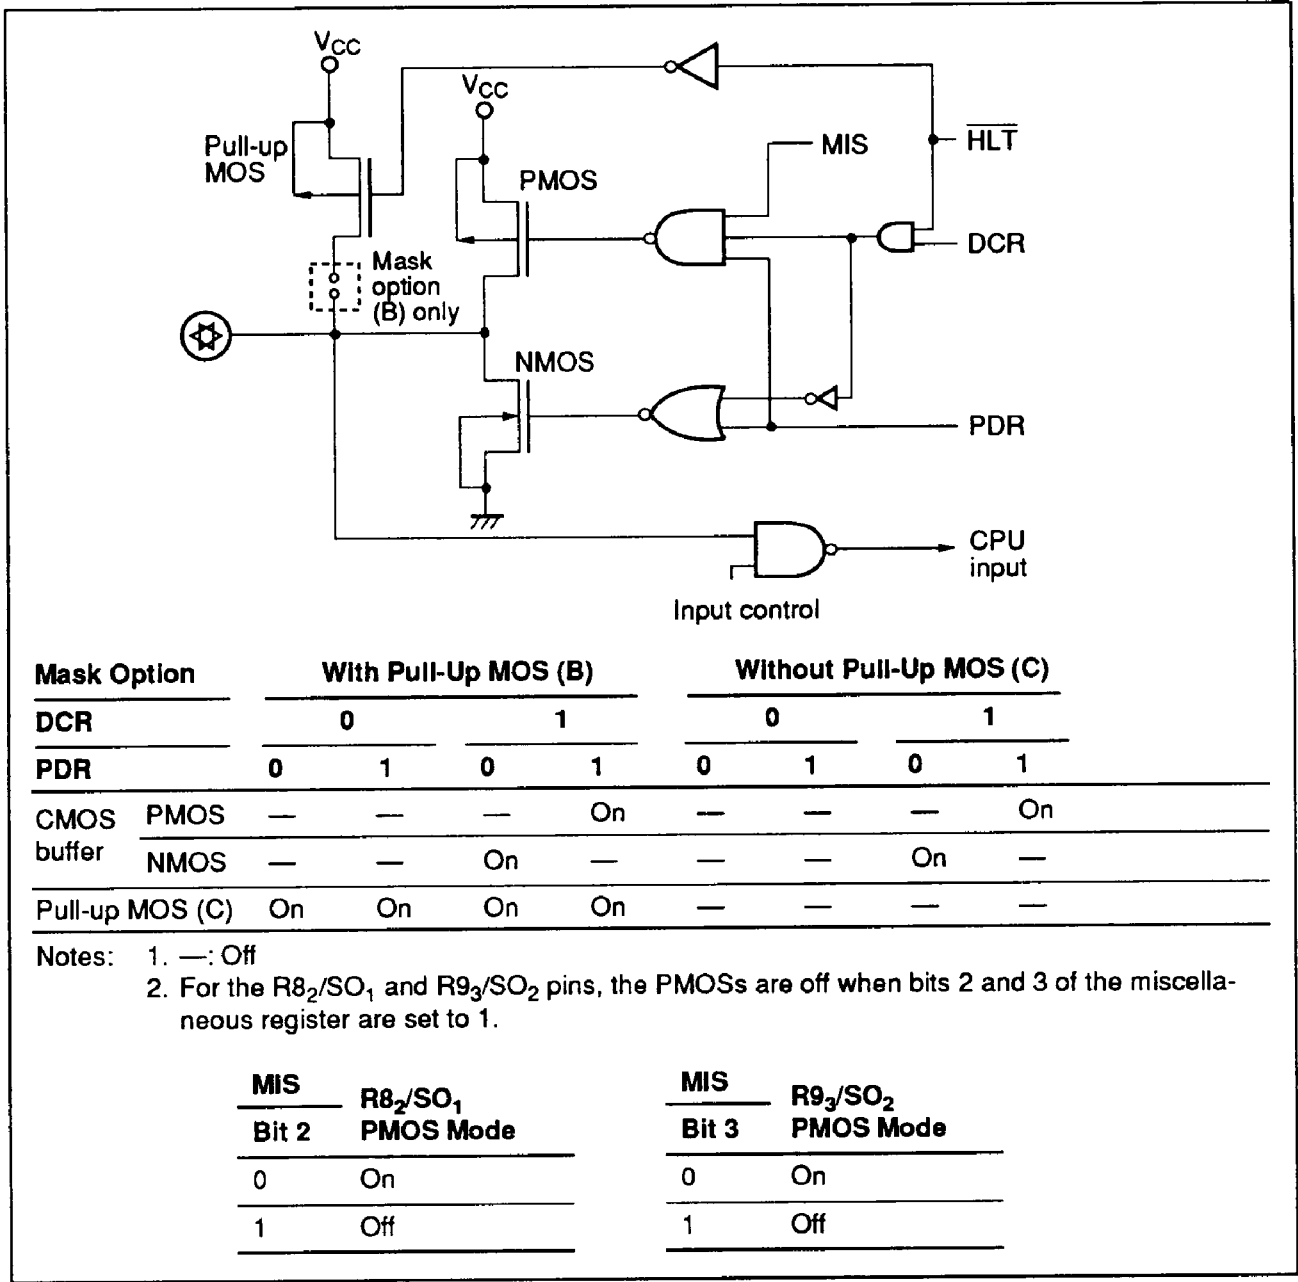

Figure 21 Input/Output Buffer
**Mask Options:** The circuits of the HD4074719 are either without pull-up MOS (C) or without pull-down MOS (D), as shown in table 25 and figure 21. Options either with pull-up MOS (B) or with pull-down MOS (E) can be selected for the HD404719, and an option with pull-up MOS (B) can be selected for the HD404439. However, note that these MCUs are not compatible with the HD4074719.